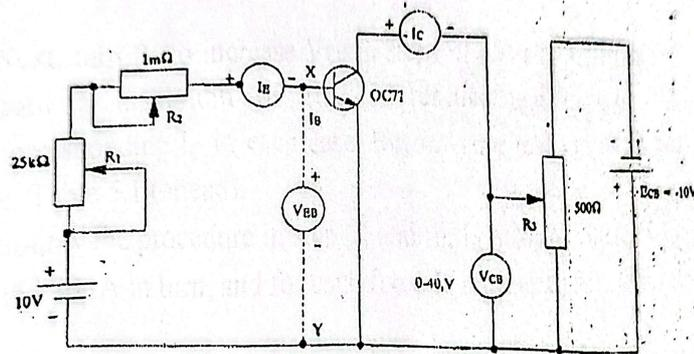

Fig. 5.4 Circuit diagram for investigating static characteristics of an NPN transistor in CE
- (i) Connect the circuit of Fig. 5.4, and turn  $R_1$  and  $R_2$  appropriately to set  $I_B = 0 \mu A$
- (iv) Using the same circuit connection of Fig. 5.4, set and keep  $V_{CE} = 2V$  initially.
- (vii) Disconnect the  $I_C$  measuring meter from the circuit of Fig. 5.4, and link up the gap by using a connection lead. Connect a 0-5, V dc voltmeter between terminals X and Y to measure ( $V_{BE}$ ).
Explain briefly what change(s) you would expect in the circuit of Fig. 5.4 if a PNP transistor were used?